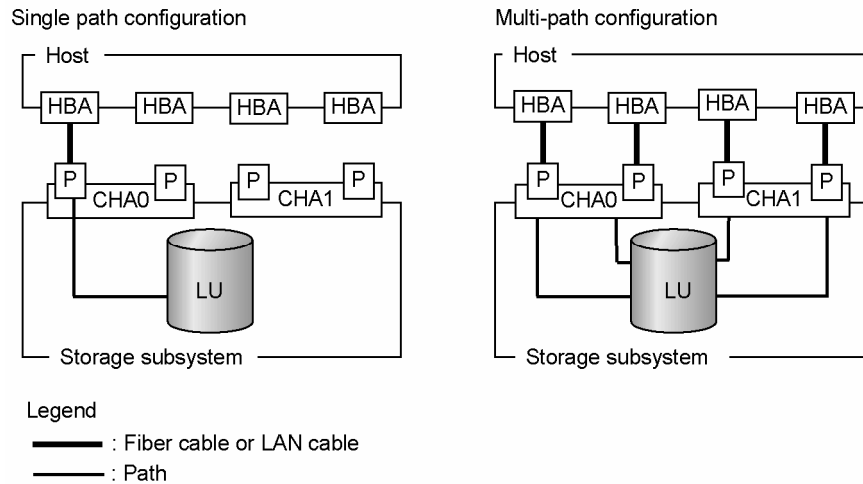

Figure 3.4 Single Path Configuration and Multi-Path Configuration
Figure 3.4 shows a single path configuration and a multi-path configuration.
25. Check the path information as described in Figure 3.4 to make sure that you have successfully built a multi-path configuration.